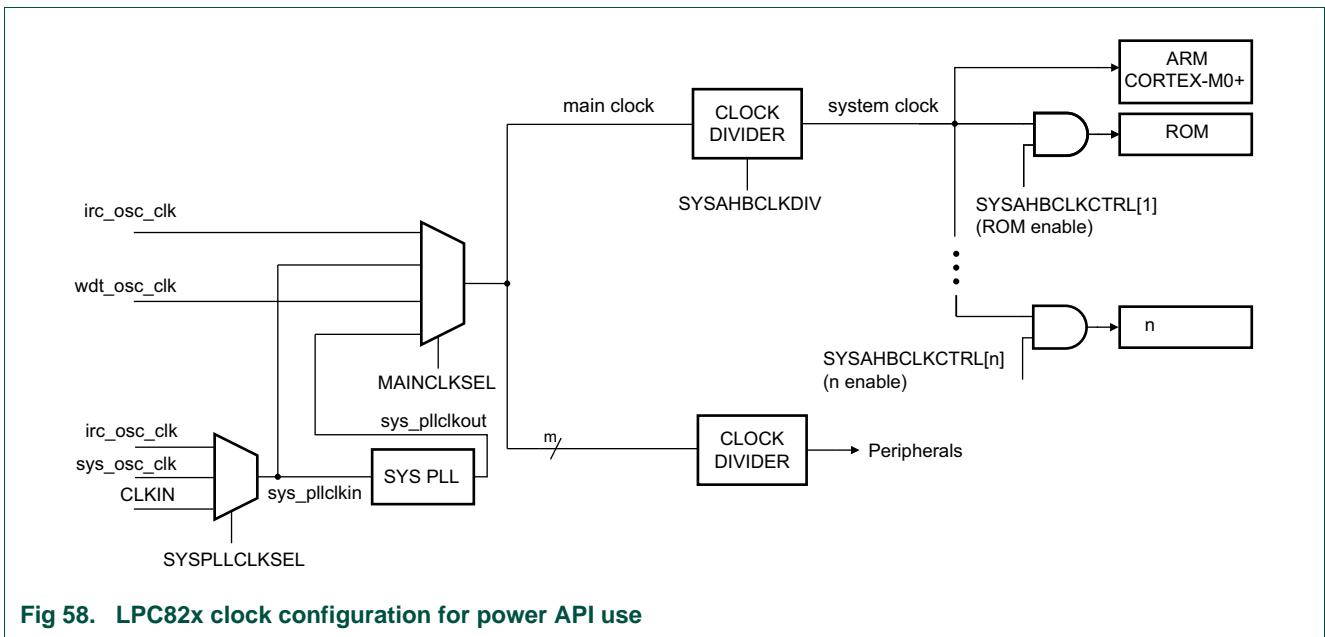

Fig 58. LPC82x clock configuration for power API use
For a simplified clock configuration scheme see Figure 58. For more details see Figure 5.
set\_pll configures a setup in which the main clock does not exceed 30 MHz (see Figure 58). It easily finds a solution when the ratio between the expected system clock and the system PLL input frequency is an integer value, but it can also find solutions in other cases.
**Remark:** Use the set\_power routine with SYSAHBCLKDIV = 1 (System clock divider register, see Table 34 and Figure 58).